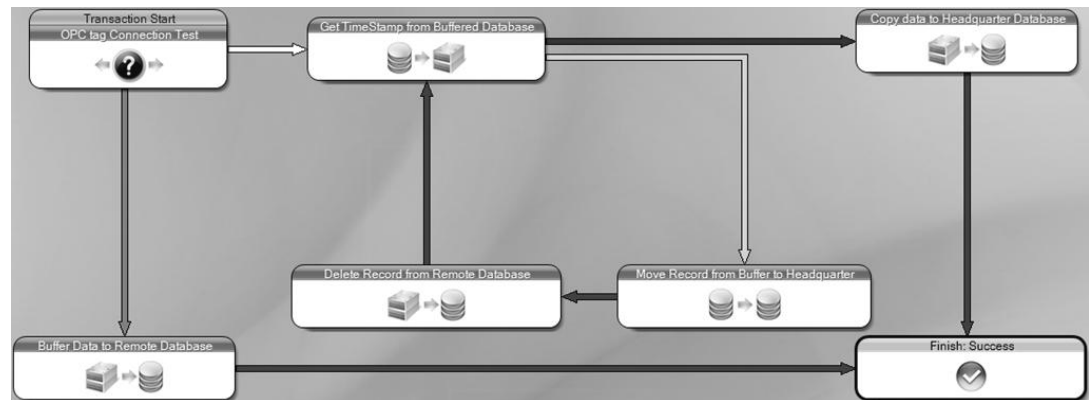

Figure L5.9 - Transaction Overview
4. Move the block so the logic is more visible, as shown in Figure L5.9.